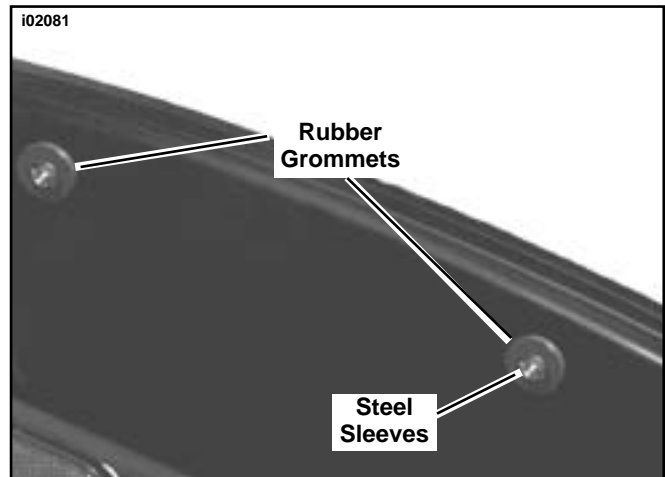

Figure 8. Install Grommets and Sleeves
18. See Figure 8. Install rubber grommets (Part Number 90148-00) into holes in side of saddlebag as shown.